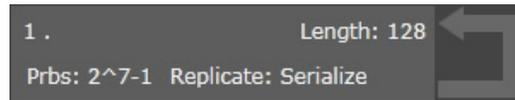

Figure 42 Select Generator block
- g Click in the **Generator** block as shown in Figure 42 on page -86 and repeat this procedure to set up the pattern generator (M1.DataOut1).